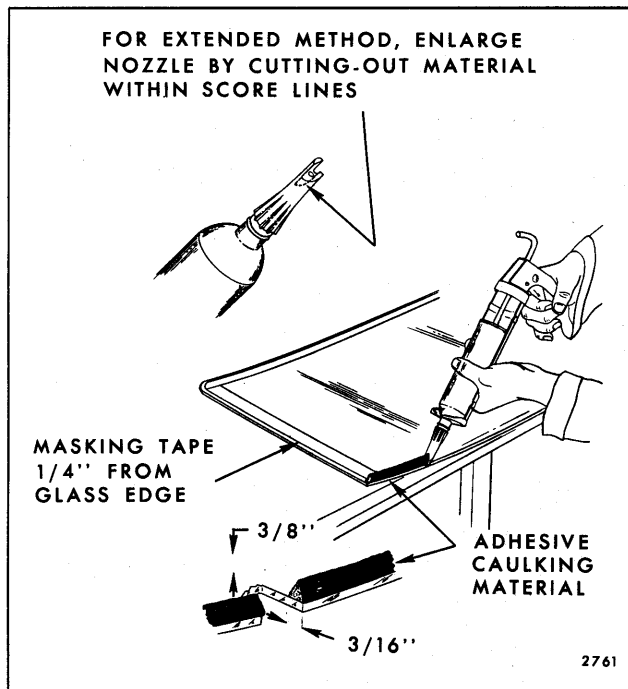

Fig. 4-9—Adhesive Material Application - Extended Method
11. Remove glass from opening and apply one-inch masking tape around inner surface of glass 1/4" inboard from outer edge (Fig. 4-9). On windshield installations, apply tape to top and sides only. Do not use tape across bottom. Removal of tape after glass installation will aid in clean-up and give a smooth, even edge to adhesive material.
13. Nozzle furnished in kit is designed for "short" method. For the "extended" method, enlarge nozzle opening by removing material within score lines as indicated in Figure 4-9. Do not notch nozzle beyond score lines.
15. With caulking gun and nozzle positioned as illustrated in Figure 4-9, carefully apply a smooth continuous bead of caulking material  $3/8$ " high by  $3/16$ " wide at base completely around inside edge of glass.